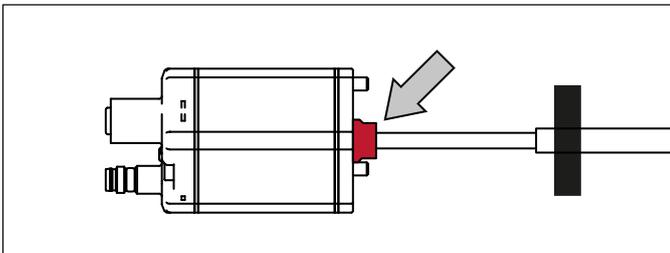

Fig. 32: Remove sealing before inserting into sensor rod HD/HL/HP
- The base unit is mounted by means of three screws. It is the only part that needs to be replaced if servicing is required, i.e. the hydraulic circuit remains closed. Before inserting the base unit into the sensor rod HD/HL/HP, remove the red sealing at the transition between the sensor electronics housing and the flexible sensor rod (Fig. 32). For more information see chapter “4.11.1 Replacement of base unit on the RH5/RFV/RF5 model” on page 57.